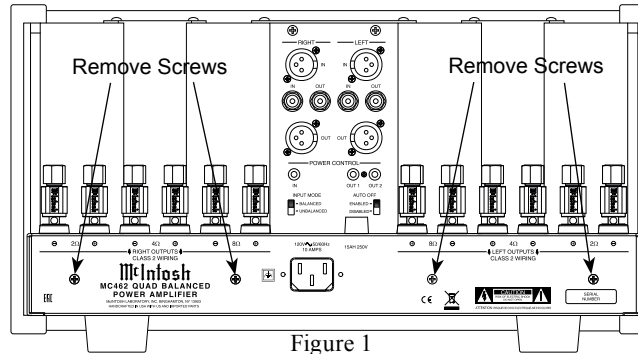

Figure 1
3. Using a suitable tool remove the four screws from the MC462 Rear Panel and temporarily place them in a safe place. Refer to figure 1.